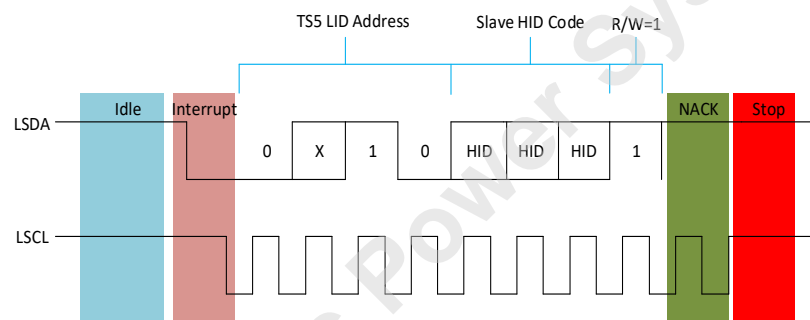

Figure 8 — TS5 Requests Interrupt; Host NACK followed by STOP
- The Host sends NACK on the 9th bit as shown in Figure 8 followed by a STOP command. In this case, the TS5 device does not transmit the IBI payload and waits for the next opportunity to request an interrupt. At this point, though Host sent an NACK, it does have a knowledge of which TS5 device sent the IBI request. The TS5 device retains the IBI status flag and Pending Interrupt Bits [3:0] = ‘0001’.